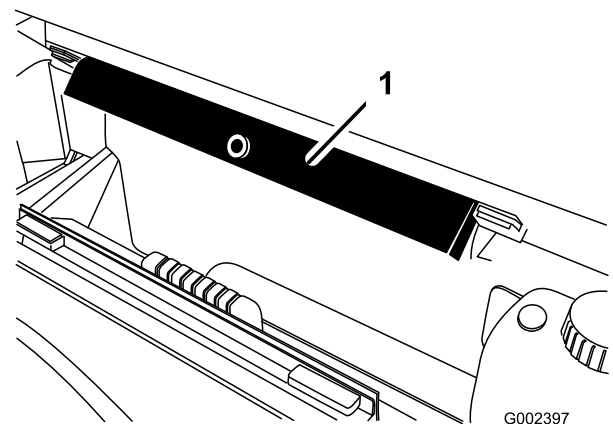

Figure 12
2. Remove the safety support from the storage brackets on back of the ROPS panel (Figure 12).